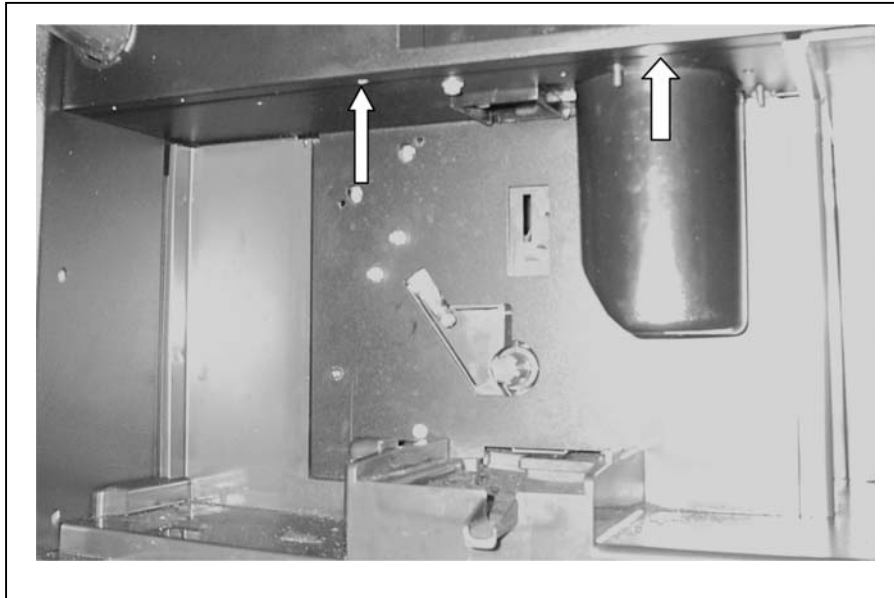

Figure 5-35: Upper Front Plate Assembly Retaining Screws.
23. Remove the two Upper Front Plate Assembly Retaining Screws – as shown in Figure 5-35.